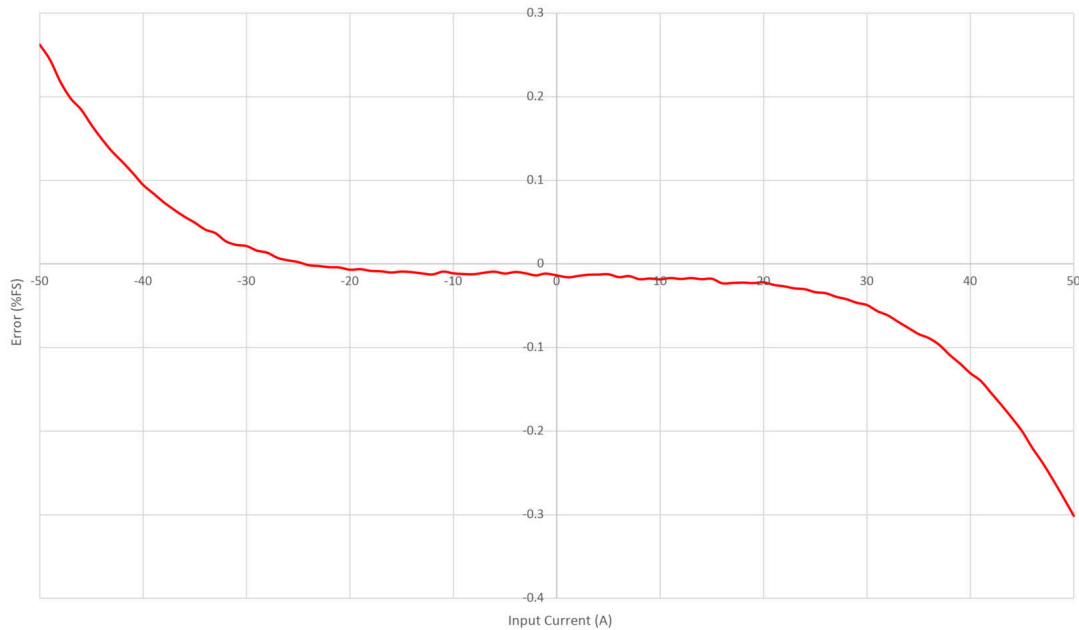

Figure 3-4. AMC-MOD-50A-EVM Total Error %FS Results
10. Plot the calculated results against input current, I_{IN} . Figure 3-4 shows an example results plot.